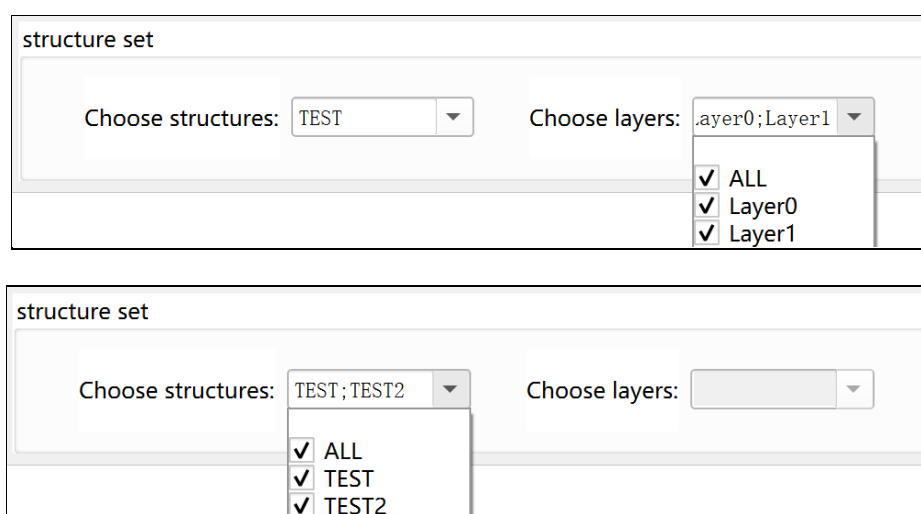

Figure 2.6.2 Set the layout to be corrected
- 7) A GDSII file can contain multiple structures, and a structure can contain multiple layers. If users only want to perform PEC on part of the layout in the file, they can click on the "structure set" at the bottom of the page to further set the layout to be corrected. But you must select at least one for "Structure" and at least one for "Layer" (Figure 2.6.2 (top)). If multiple "Structure" has been selected, you cannot select "Layer" again (Figure 2.6.2 (bottom)).